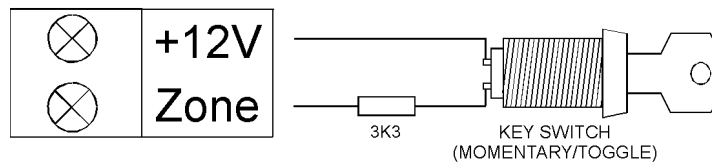

Figure 3: Wiring Diagram For Keyswitch Zone
- Note 1:** When choosing an EOL resistor value other than the default 3K3 for a non-partitioned system, the keyswitch zone must still use a 3K3 EOL resistor as shown in “Figure 3: Wiring Diagram For Keyswitch Zone”. The keyswitch zone will not operate with any other resistor value.